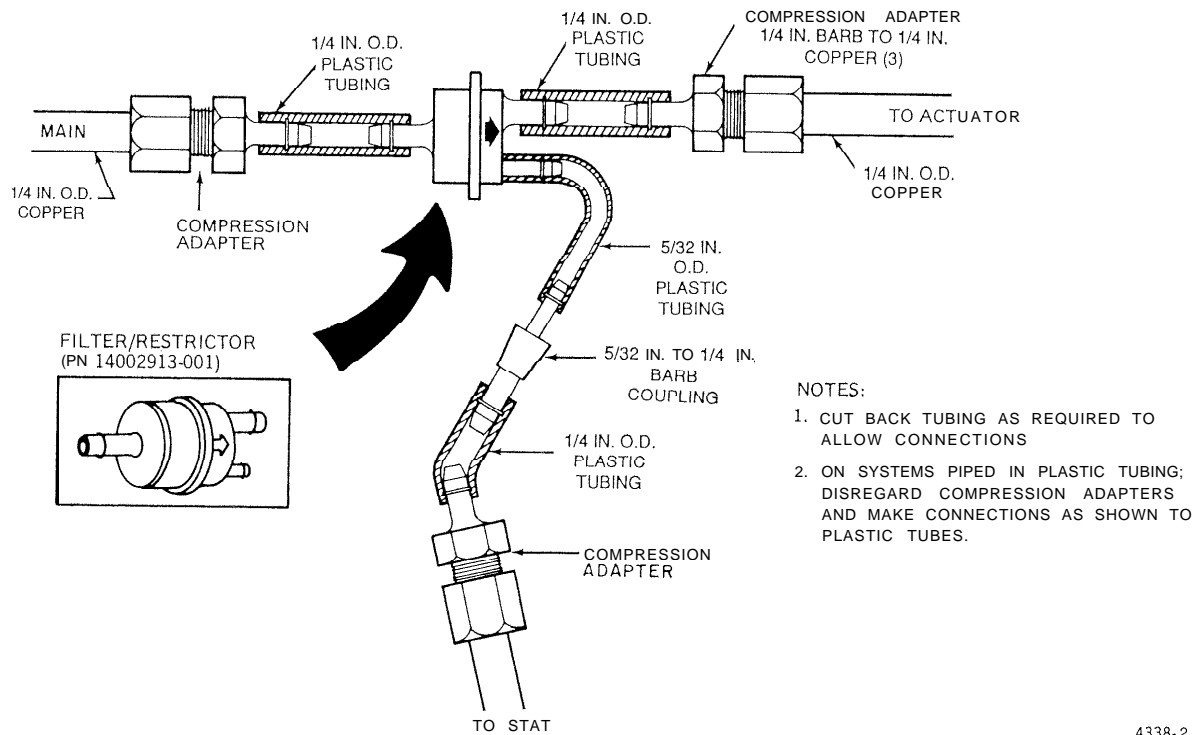

Fig. 3. New restrictor installation in 1/4-in. copper tubing.
4. When replacing a one-pipe device, the restrictor must be replaced with Restrictor 14002913-001 (Fig. 3).